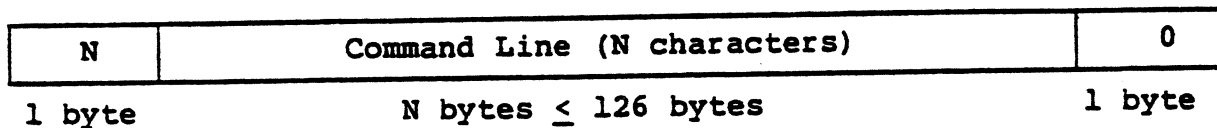

Figure 4-4. Command Line Format in the DMA Buffer
The Chain to Program Function terminates the current program and executes the command line stored in the current DMA buffer. The format of the command line consists of a one-byte character count (N), the command line characters, and a null byte as shown in Figure 4-4. The character count contains the number of characters in the command line. The count must be no more than 126 characters. If an error occurs, you receive one of the CCP errors described in Appendix E.